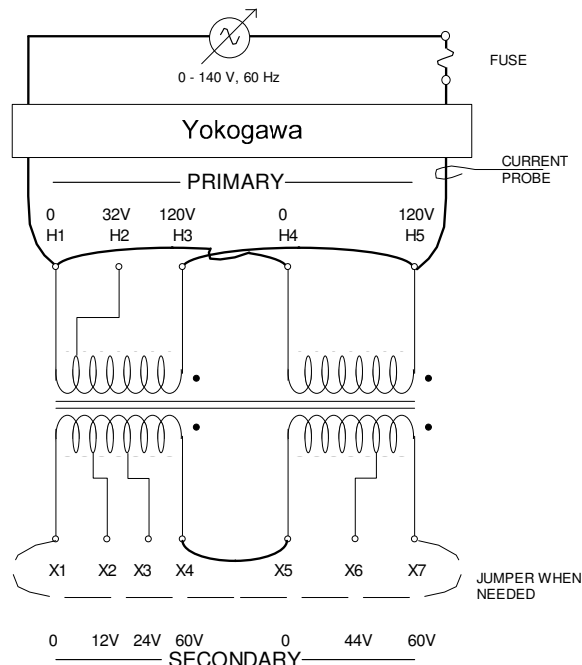

Figure 3 - Transformer Connections for Open-Circuit and Short-Circuit Tests.
- 2.2 Connect the wiring of the single-phase transformer, as shown in Figure 3. Be sure to connect the 2.0 A fuse (in the blue box) between the voltage source and the transformer, as shown.